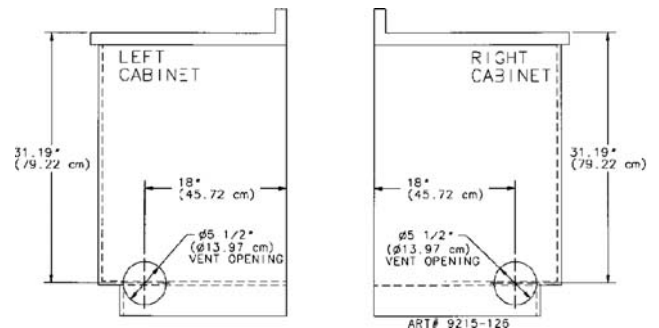

Figure 13
- c. **Through the Left or Right side cabinet.** (See figure 13).
2. Cut hole in either the left or right side of the cabinet wall as shown in figure 13.